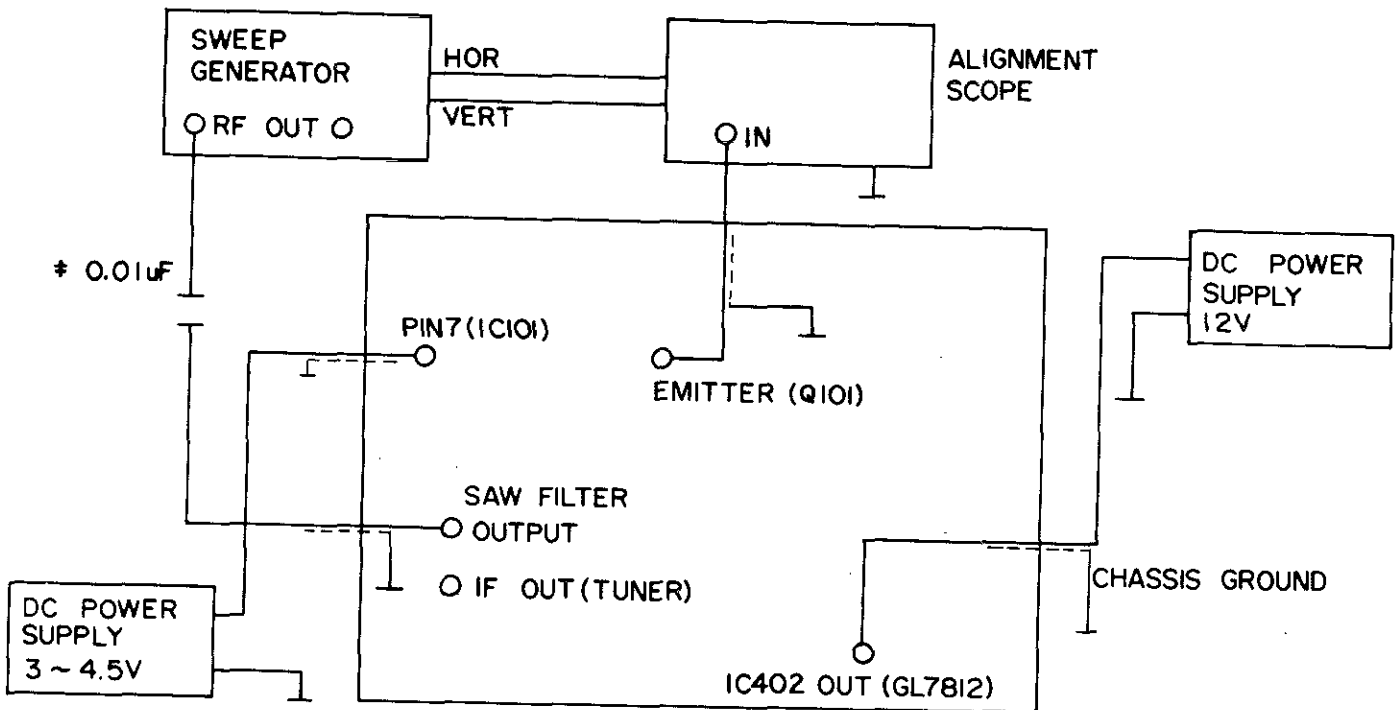

Figure 1
* Connect Ceramic Capacitor (0.01uF) between RF-OUT terminal of the Sweep Generator and Out terminal of Saw Filter as shown in figure 1.
- Connect the equipment to the main board as shown in figure 1, and then turn the DC power supplier on.
- 2) Do connecting Block Diagram of Equipments as shown in figure 1, but connect RF-OUT terminal of the sweep Generator to IF-OUTPUT terminal of the TUNER on the Main PCB.